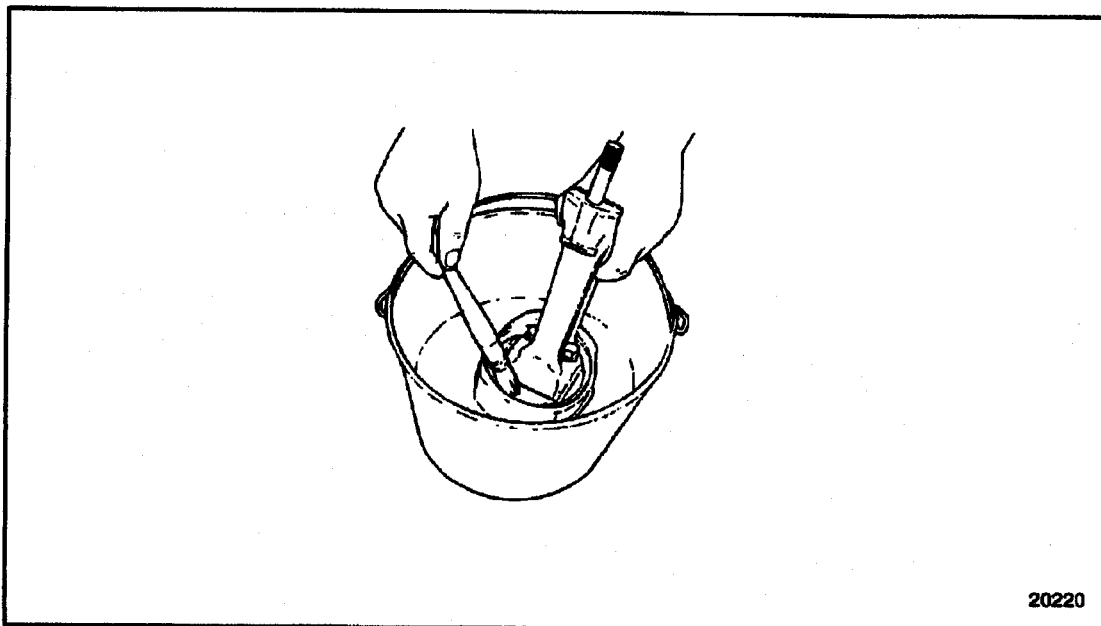

Figure 1-262 Piston and Connecting Rod Assembly Lubrication
3. Place the piston and connecting rod assembly into pan, with the dome of the piston on the bottom of the pan. See Figure 1-262.